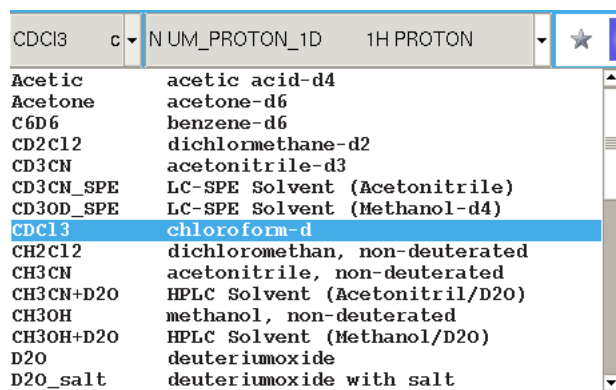

Figure 5. Solvent list
4. You can select the solvent from the dropdown list (Figure 5). If you have a special solvent and/or your solvent is not listed, please contact BioNMR staff ([bionmrcore@umich.edu](mailto:bionmrcore@umich.edu))